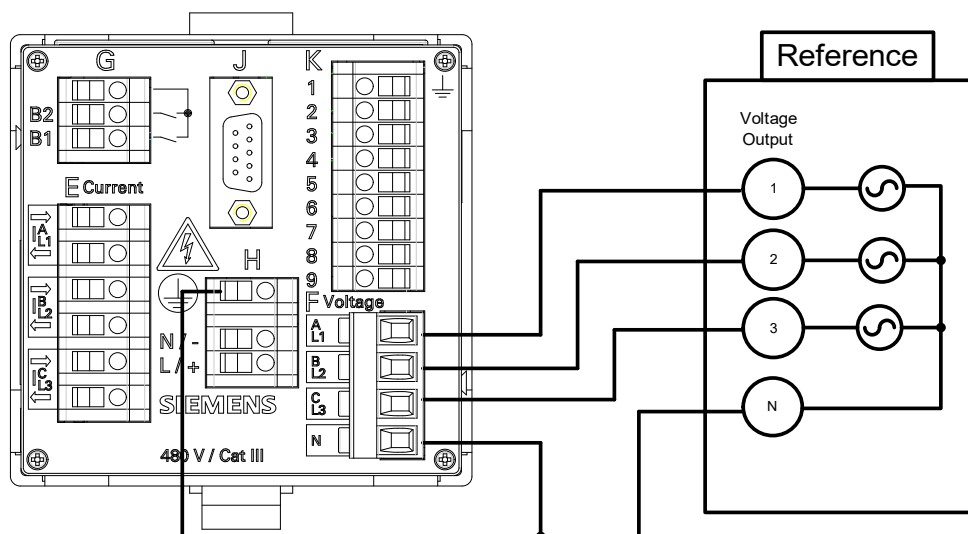

Fig. 10-1 Measurement Setup for Calibrating the AC Voltage Measuring Range
Calibration is only possible with symmetrical phases ( $3 \times 120^\circ$ ), see figure 10-1.
- ✧ Set up the measurement as shown in figure 10-1, depending on the device variant.